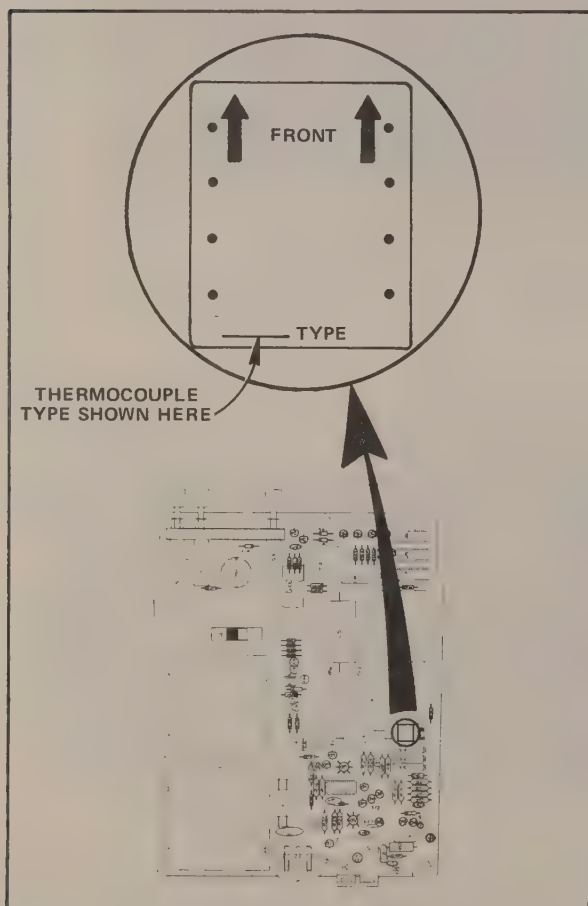

Figure 2-2. TYPE SELECT PCB, LOCATION AND INSTALLATION DETAILS
- g. Unplug and remove the currently installed type select pcb from the position shown in Figure 2-2, and install the new one in its place.